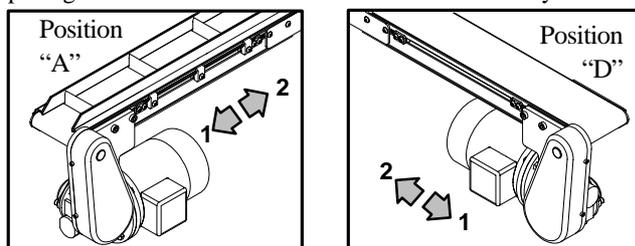
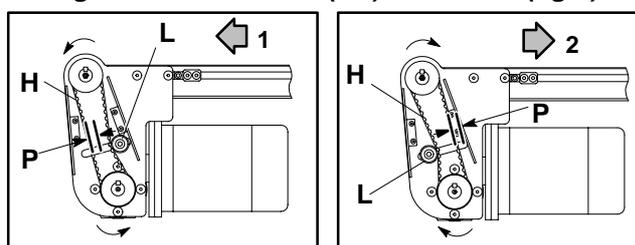
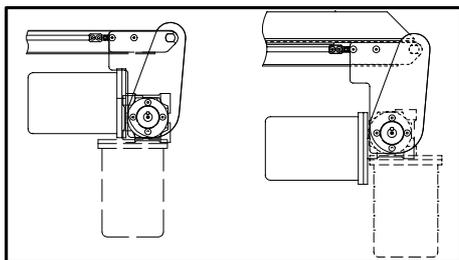
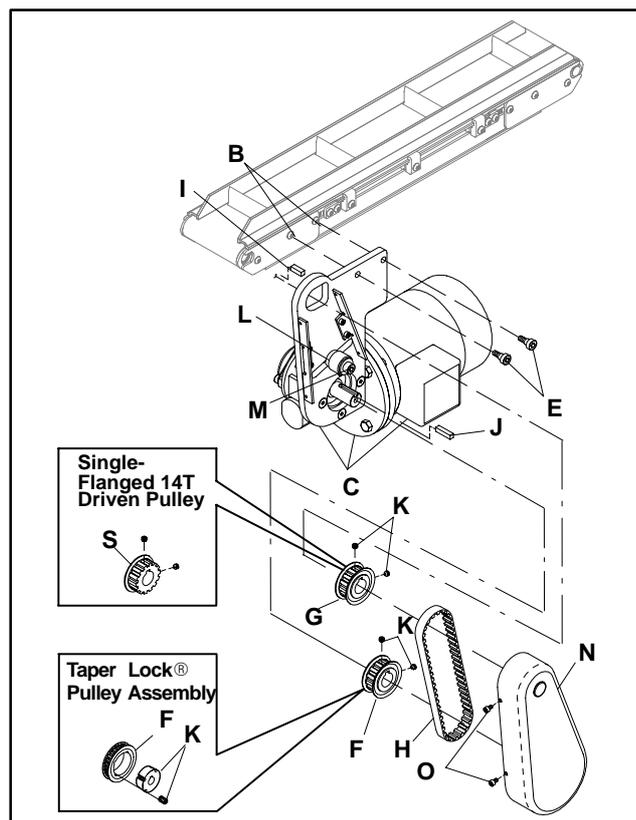

Figure 1: Cleated Belt (left) & Flat Belt (right)
Figure 2: Timing Belt Tension Detail
Figure 3: Gearmotor Re-orientation Details for Flat Belt Conveyor (left) & Cleated Belt Conveyor (right)
Figure 4: Sample Cleated Belt Bottom Drive
The end drive bottom mounting package is ordered from the factory in either configuration shown by Position "A" or "D" of Figure 1 along with the conveyor belt travel direction shown by arrow 1 or 2 of Figure 2. Actual direction of belt travel is indicated by an arrow decal affixed to side of conveyor. The same mounting package is used for both flat belt and cleated belt conveyors.
1. Remove and discard the two original tail plate screws (B of Figure 4) from outboard shaft side of conveyor.
2. The gearmotor and mounting plate (C) are shipped already sub-assembled, as shown. Attach this sub-assembly to the conveyor using the two 8 mm x 12 mm socket head shoulder screws (E) with 9 Nm torque.
3. If desired, re-orient the motor to alternate position shown by detaching the four (4) mounting screws, turning the motor 90° and re-securing the 4 screws (Figure 3).
4. Place a square key (I) into the keyway of the conveyor output shaft and install the driven pulley (G). Similarly, place a square key (J) in the keyway of the gear reducer shaft and install the drive pulley (F). Bring the pulleys and
For the combination 14T and 14T Pulley Kit only, be sure to install the single-flanged pulley (S of Figure 4) onto the conveyor shaft in the direction shown.
5. Install the timing belt (H of Figure 4) around the pulleys. Determine which direction the conveyor belt is traveling (as shown by arrow 1 or 2 of Figure 2) and position the tensioning roller assembly (L of Figure 2) on the appropriate slack side of the timing belt, as shown. Make sure timing belt is centered with respect to all three components before adjusting tension in the next step.
6. Adjust the timing belt tension by sliding the belt tensioning roller assembly (L) against the belt. Timing belt tension can be measured at the mid-point (P) on the tension side of the belt. At this point, tension should be adjusted for a 3 mm belt deflection with 0.5 kilograms of force applied.
- After the required tension is achieved, tighten the M8 x 40 mm socket head cap screw (M of Figure 4) with 24 Nm of torque.
- Re-attach belt guard (N) using all four (4) M4 x 6 mm socket head cap screws (O).
Do not over tension the timing belt. Over tensioning may cause reduced belt life or bearing and drive damage. Every timing belt application exhibits its own individual operating characteristics. The optimum timing belt tension should be determined experimentally. If necessary, continue to slide the tensioning roller assembly (L of Figure 2) against the timing belt (H) until belt is tensioned so as to prevent jumping the teeth under the most severe conditions or heaviest load that the drive will encounter.